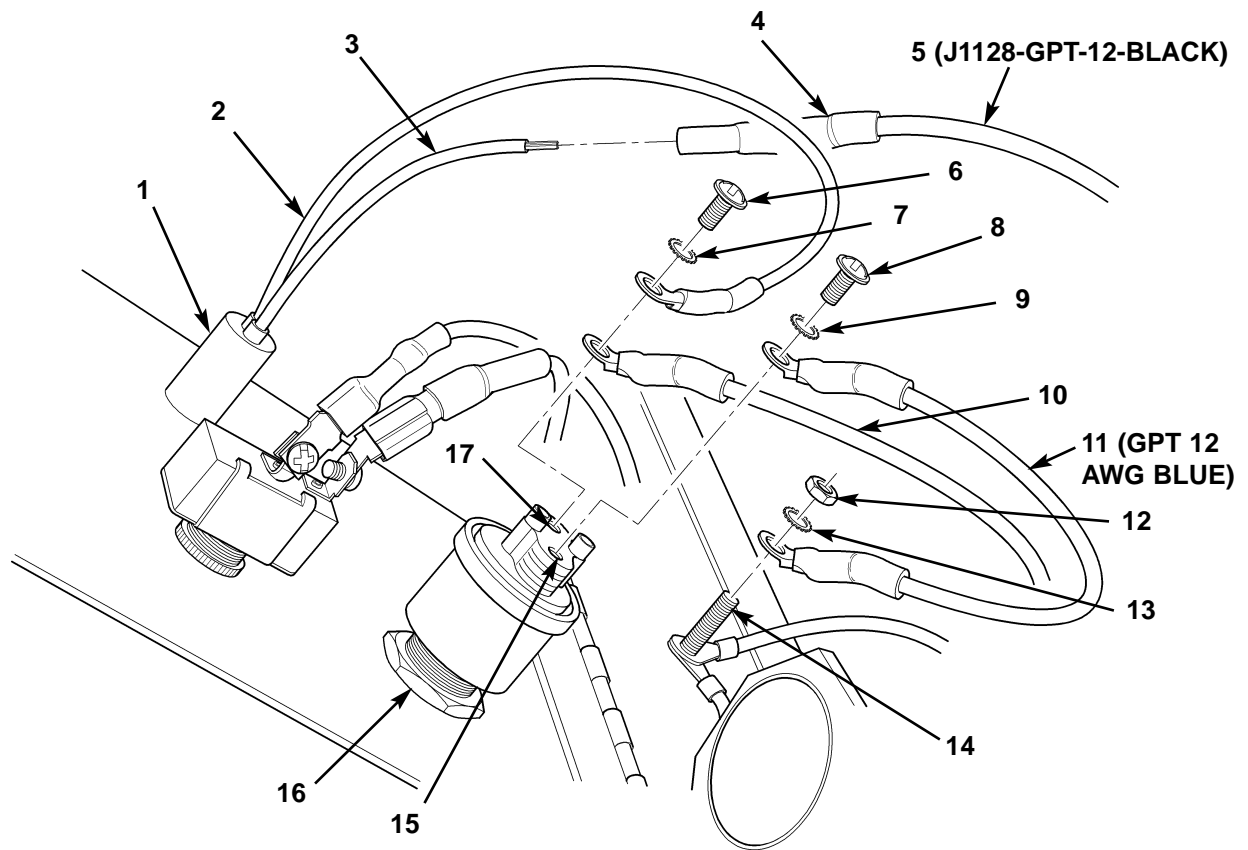

Figure 77. Connecting ABS Warning Light and Test Switch.
14. Route 76 in. (193 cm) blue wire (figure 77, item 10) from ABS ECU harness to test switch (figure 77, item 16), and connect blue wire (figure 77, item 10) and black wire (figure 77, item 2) to terminal (figure 77, item 17) with star washer (figure 77, item 7) and screw (figure 77, item 6).
15. Connect new 8 in. (203 mm) black wire (figure 77, item 11) to test switch terminal (figure 77, item 15) with star washer (figure 77, item 9) and screw (figure 77, item 8).
16. Remove nut (figure 77, item 12) and star washer (figure 77, item 13) from heater control box mounting stud (figure 77, item 14), and connect opposite end of 8 in. (203 mm) black wire (figure 77, item 11) to stud (figure 77, item 14) with star washer (figure 77, item 13) and nut (figure 77, item 12).
17. Connect remaining black wire (figure 77, item 3) from warning light (figure 77, item 1) to new 36 in. (91 cm) blue wire (figure 77, item 5) with new wire connector (figure 77, item 4).